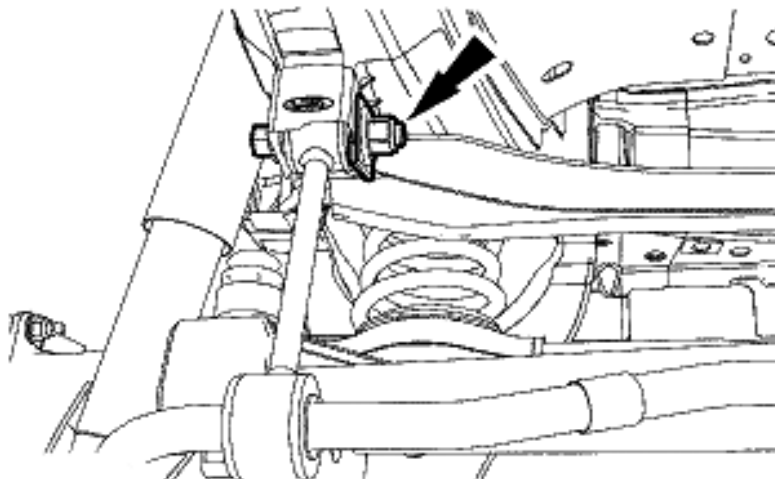

Fig. 2
1. Disconnect the stabilizer bar from the chassis (Fig. 2).